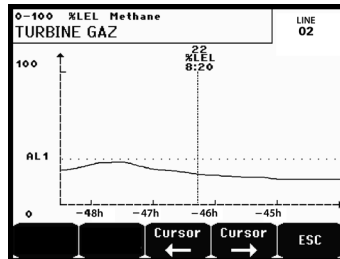

Figure 18: Example of a curve display screen
H.	Function keys. ■ Menu: Display of main menu See paragraph "Main menu" on page 25. ■ Curve: Display of the measurement curves of the last 10 days (Figure 18). The → and ← keys allow cursor displacement through the time scale. The vertical dotted line displays the concentration and time stamp of the point being considered. Escape: return to display of values.